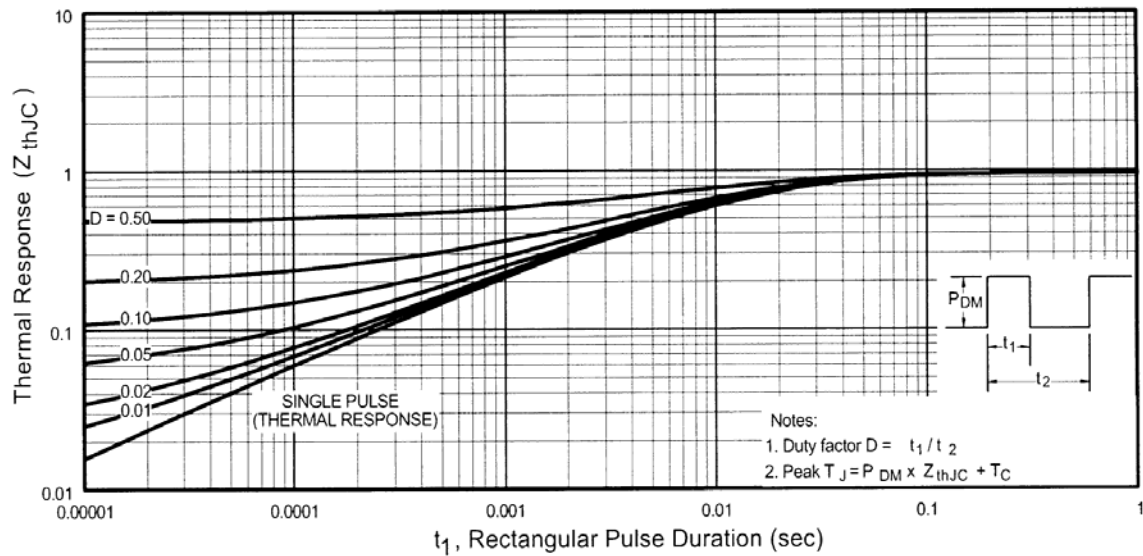

Fig 11. Maximum Effective Transient Thermal Impedance, Junction-to-Case
- ① Repetitive rating; pulse width limited by max. junction temperature. (See fig. 11)
- ② Starting $T_J = 25^\circ\text{C}$, $L = 1.7\text{mH}$